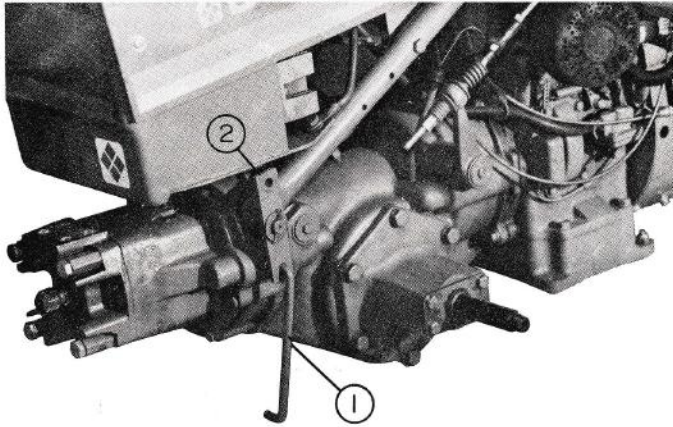

Fig. 13
6. Insert the brake link rod in the bottom hole of the pivot plate and secure with a cotter pin. See fig. 13.